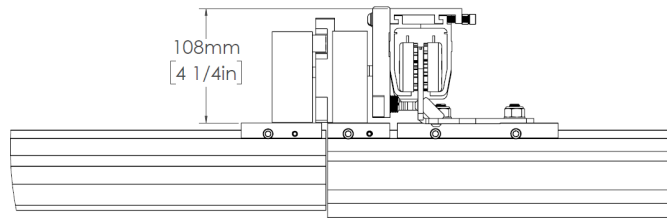

Figure 78: **Super Track/Standard Track Systems Bracket Height Difference—4 1/4"**
- For super track/standard track systems, the difference in bracket height is 4 1/4" (Figure 78)